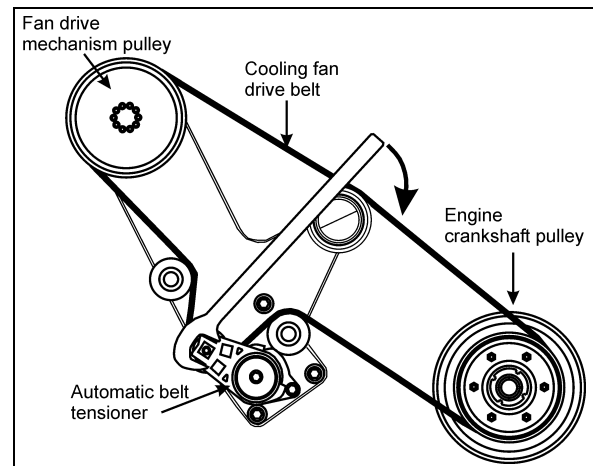

FIGURE 30: DRIVE BELT ROUTING (VOLVO D13 ENGINE)
1. Wrap the new drive belt around the fan drive mechanism pulley, the idlers and the automatic tensioner idler as shown on figure 30.
2. Using the special tool included with your vehicle (see inside the Warning Reflectors box located in the first curb-side baggage bay), rotate the automatic tensioner in clockwise direction to relieve tension on the belt and hold the tensioner in that position (Figure 30).